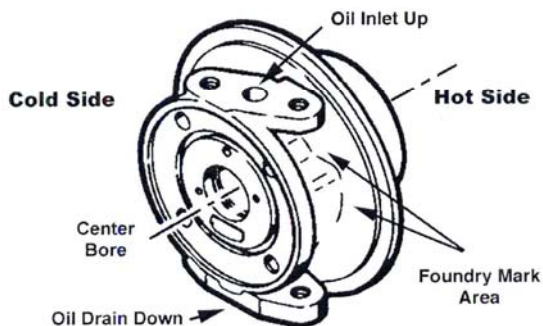

Figure 4
- Wearing protective Rubber Gloves, place CHRA center housing (Figure 4) into the bucket and soak for a minimum of 30 seconds. If the housing has coking or other stubborn deposits, allow to soak longer.
- After soaking, agitate center housing by hand in the bucket for a minimum of 15 seconds in each of the following directions: Center bore vertical, cold side down, center bore vertical, cold side up, oil drain down, and oil drain up. *Reference points shown in Figure 4.*